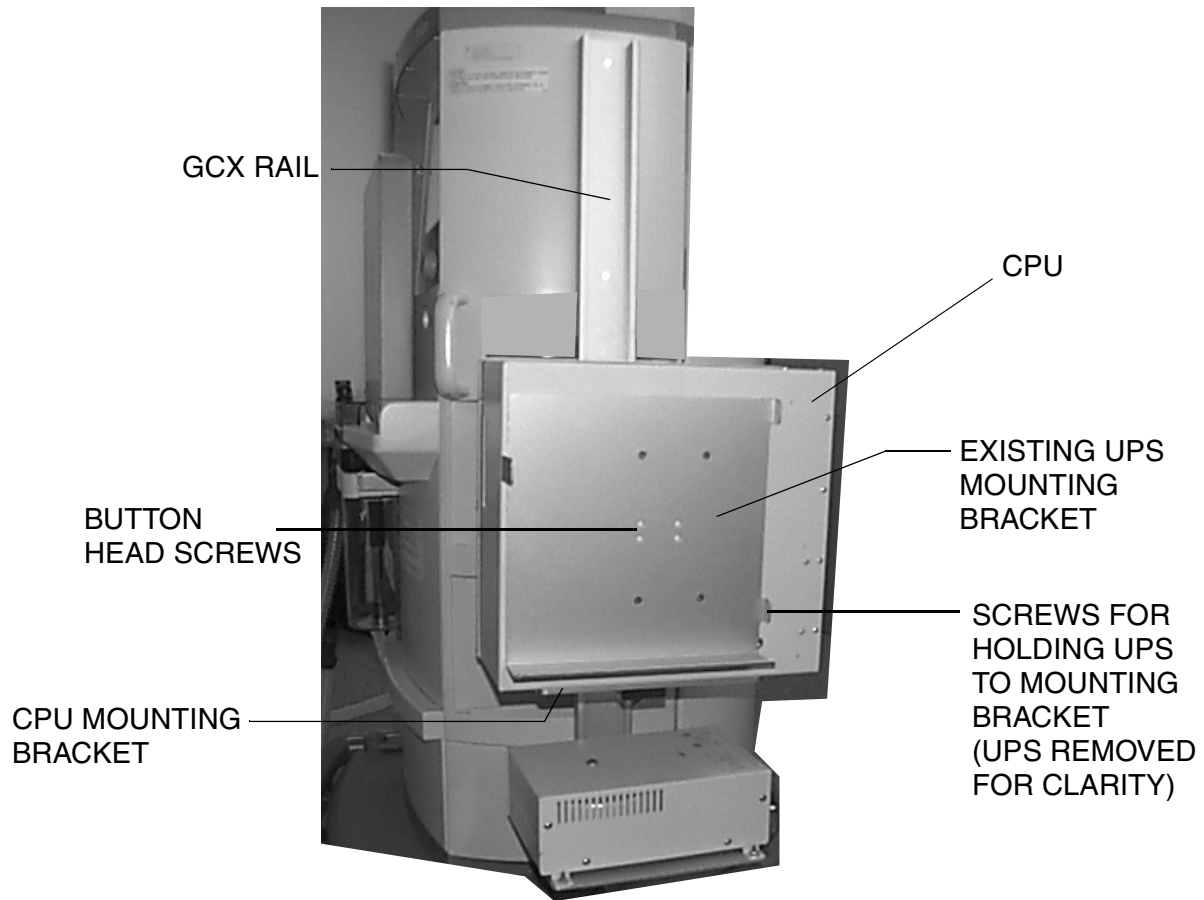

FIGURE 4. Existing Power Supply and Mounting Configuration
4. Remove two screws attaching power supply to existing mounting bracket. Discard hardware. Remove power supply. See Figure 4 for existing power supply mounting configuration.